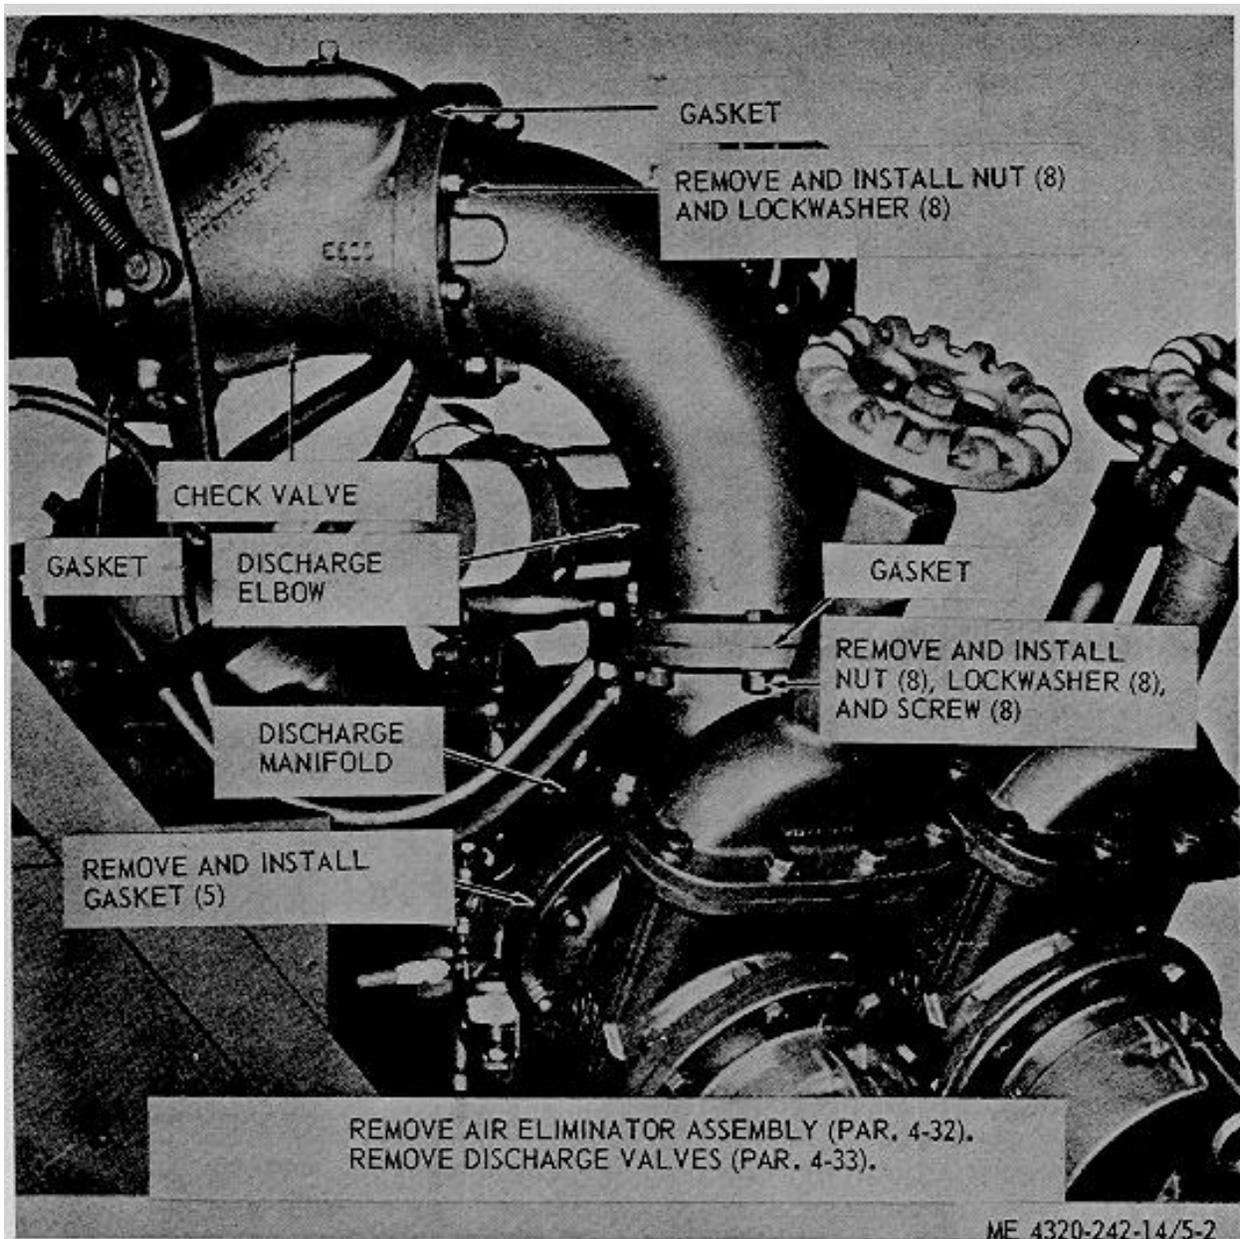
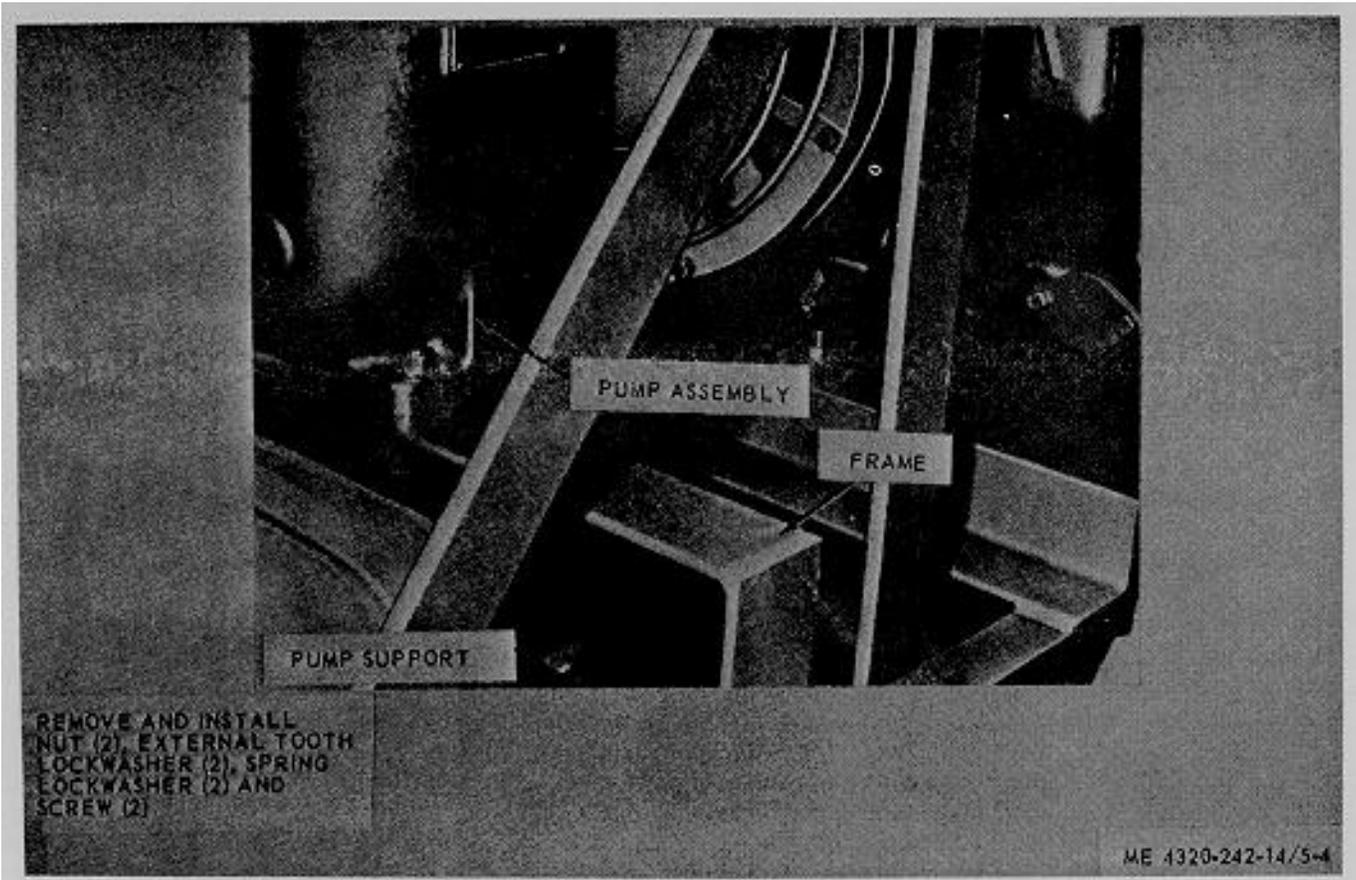

Figure 5-2. Discharge manifold elbow and check valve. removal and installation.
Figure 5-4. Pump, removal and installation.
a. *Removal.* Refer to figure 5-2, and remove the
b. *Installation.* Refer to figure 5-2, and install the check valve, elbow, and discharge manifold.
(10) Remove the discharge manifold, elbow and check valve. (fig. 5-2).
(11) Remove the tank to carburetor fuel line (para. 4-15 and 4-16).
(12) Connect a suitable lifting device to the pump.
(13) Disconnect battery cables.
(14) Refer to figure 5-4 and remove the mounting hardware and lift the pump assembly from the trailer frame assembly.